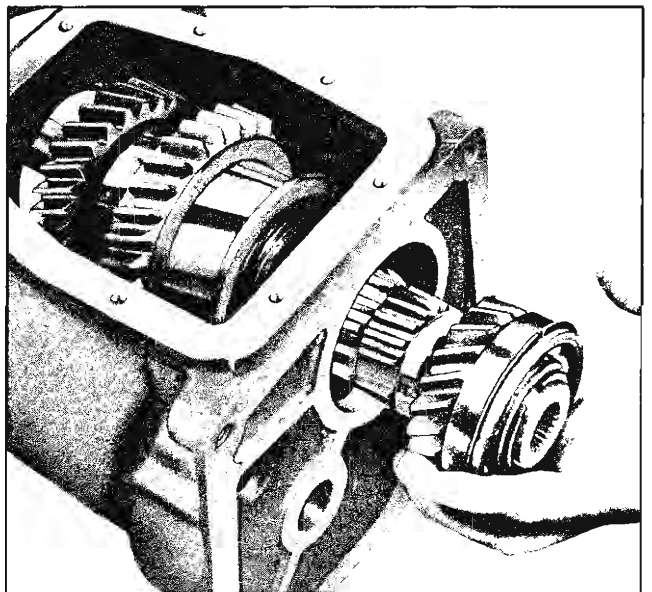

Fig. 7-39 Installing Mainshaft and Clutch Gear
18. Place mainshaft in clutch gear and, from front of case, insert mainshaft through bores of clutch sleeve and second speed gear (Fig. 7-39).